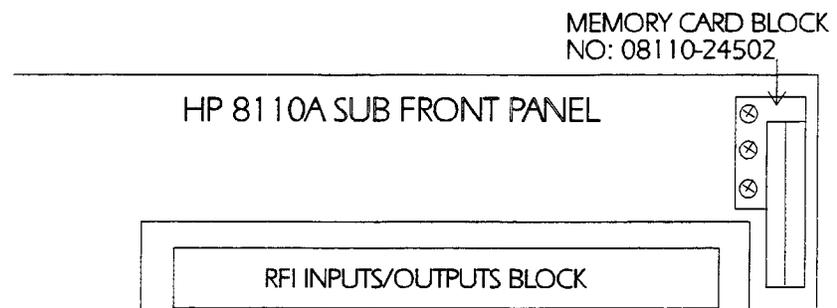

Figure 5-22. Memory Card Connector board Front Fixings
2. Remove 3 screws securing the Memory Card Block to the chassis sub Front Panel Figure 5-22 shows the location of these screws